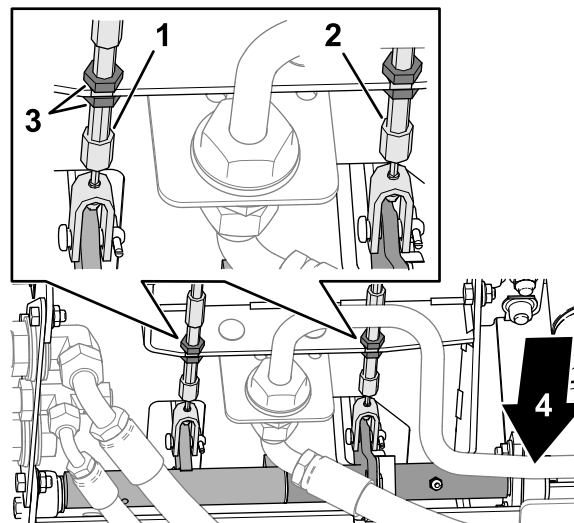

Figure 103
3. Loosen the front jam nut on the threaded end of the brake cable (Figure 103).